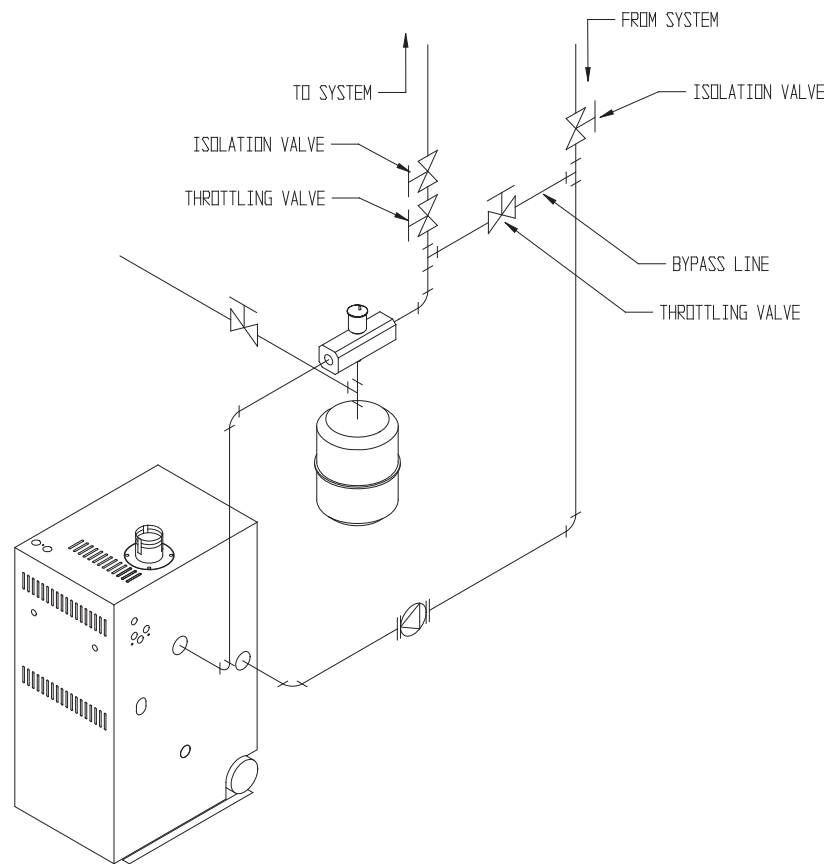

FIGURE 28: BYPASS PIPING
- 2) Gravity and “Large Water Volume” Systems – The piping shown in Figure 28 will minimize the amount of time that the boiler operates with return temperatures below 120F on these systems. A bypass is installed as shown to divert some supply water directly into the return water. The bypass pipe should be the same size as the supply. The two throttling valves shown are adjusted so that the return temperature rises above 120F during the first few minutes of operation. A three-way valve can be substituted for the two throttling valves shown. If the circulator is mounted on the supply, the bypass must be on the discharge side of the circulator.